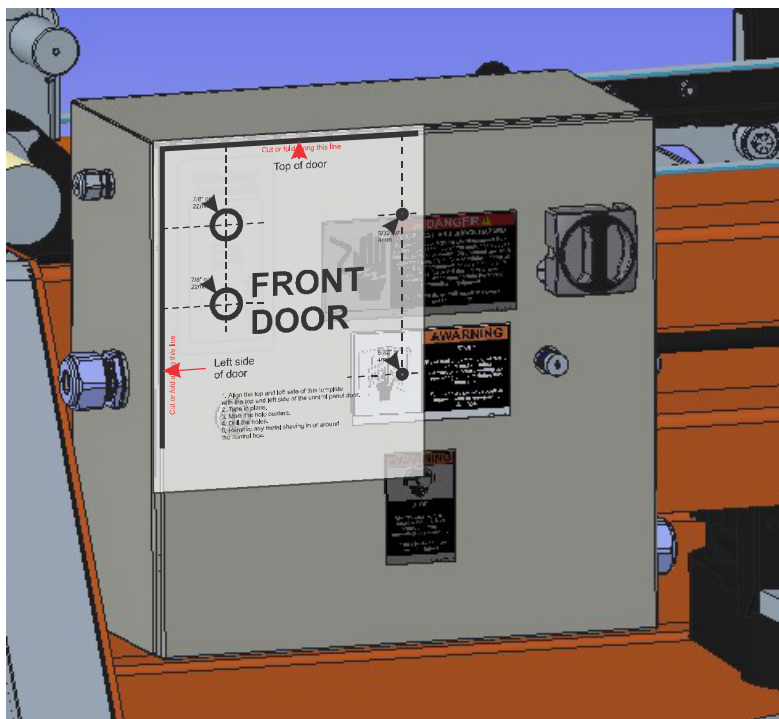

FIG. 4
2. Apply the MB200AF control decal on the front door as shown in FIG. 4.
- 3. Use the step drill bit to drill the four holes through the control box door as shown in FIG. 4.